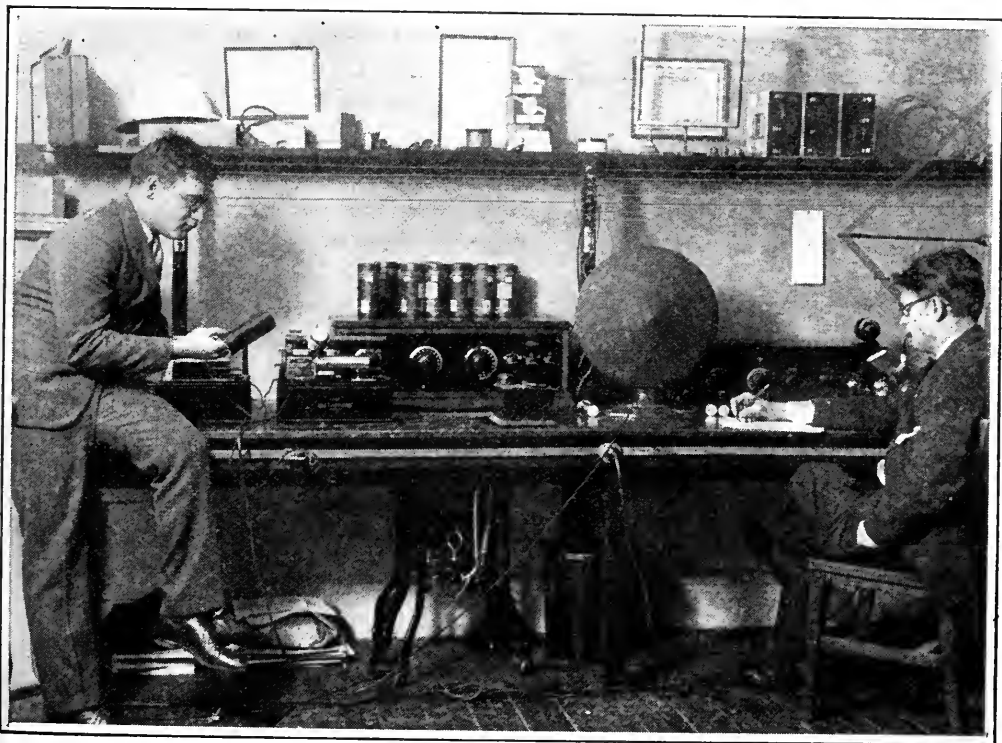

FIG. 1
**T**HERE are many occasions when it is desirable to make records of wireless reception. Figs. 1, 2, and 3 illustrate a system of recording that is comparatively simple and yet quite effective. The apparatus described was installed as a check on fading phenomena during the total eclipse of the sun on January 24th, 1925.